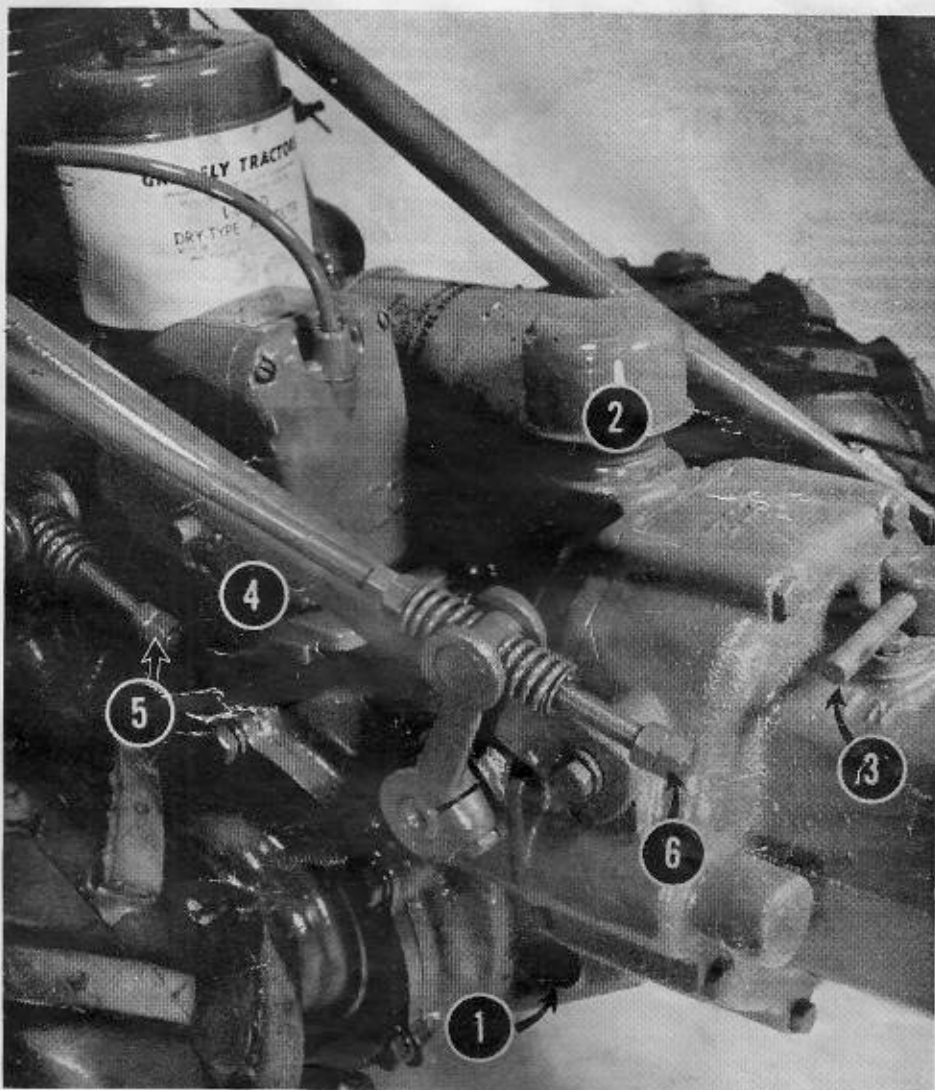

Figure 1
If your Tractor is not Dipstick equipped, check the oil level by removing completely the bronze Try-cock Valve (on some Tractors there is an Oil Level Plug rather than the Try-cock Valve), 1 in Figure 1. If oil runs out, the Tractor has enough; if not, oil must be added.
**ADDING OIL.** Add oil through the Oil Filler Hole by removing the Oil Filler Cap, 2 in Figure 1. A small funnel is helpful.
**ATTACHMENT CLUTCH LEVER.** The Attachment Clutch Lever, 3 in Figure 1, puts the power attachment in or out of gear. Simply move the Lever to the desired position indicated by the embossed IN and OUT.
Take the attachment out of gear, move both Operating Levers to neutral, and raise the Throttle until the Engine idles. Then depress the small clip on the Magneto, 4 in Figure 1, to stop the Engine.